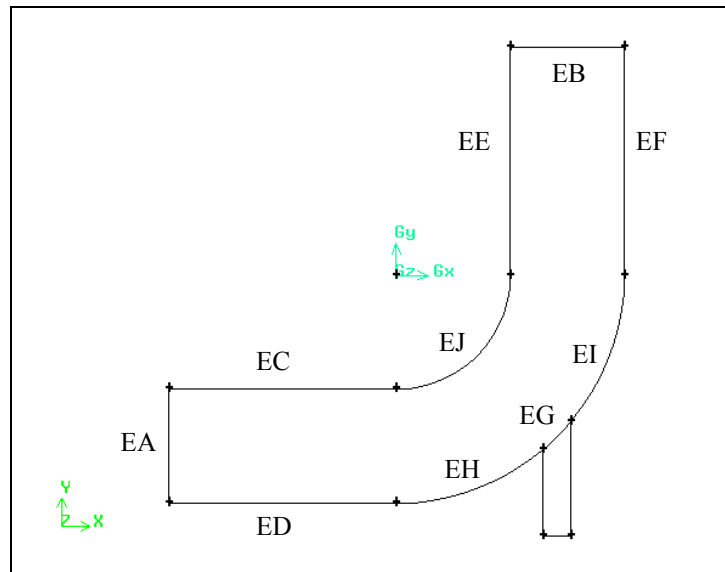

Figure 2-15: Edges to be meshed
- a) *Shift*-left-click the edge marked EA in Figure 2-15.
- b) *Shift-left-click* the edge marked EB in Figure 2-15.